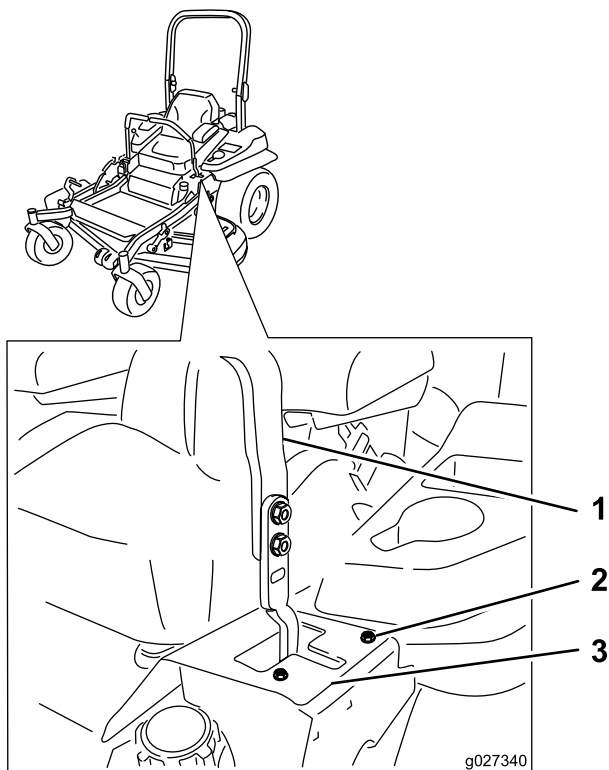

Figure 60
6. If the machine tracks to the right, loosen the bolts and adjust the left stop plate rearward on the left T-slot until the machine tracks straight (Figure 60).
7. If the machine tracks to the left, loosen the bolts and adjust the right stop plate rearward on the right T-slot until the machine tracks straight (Figure 60).
8. Tighten the stop plate (Figure 60).